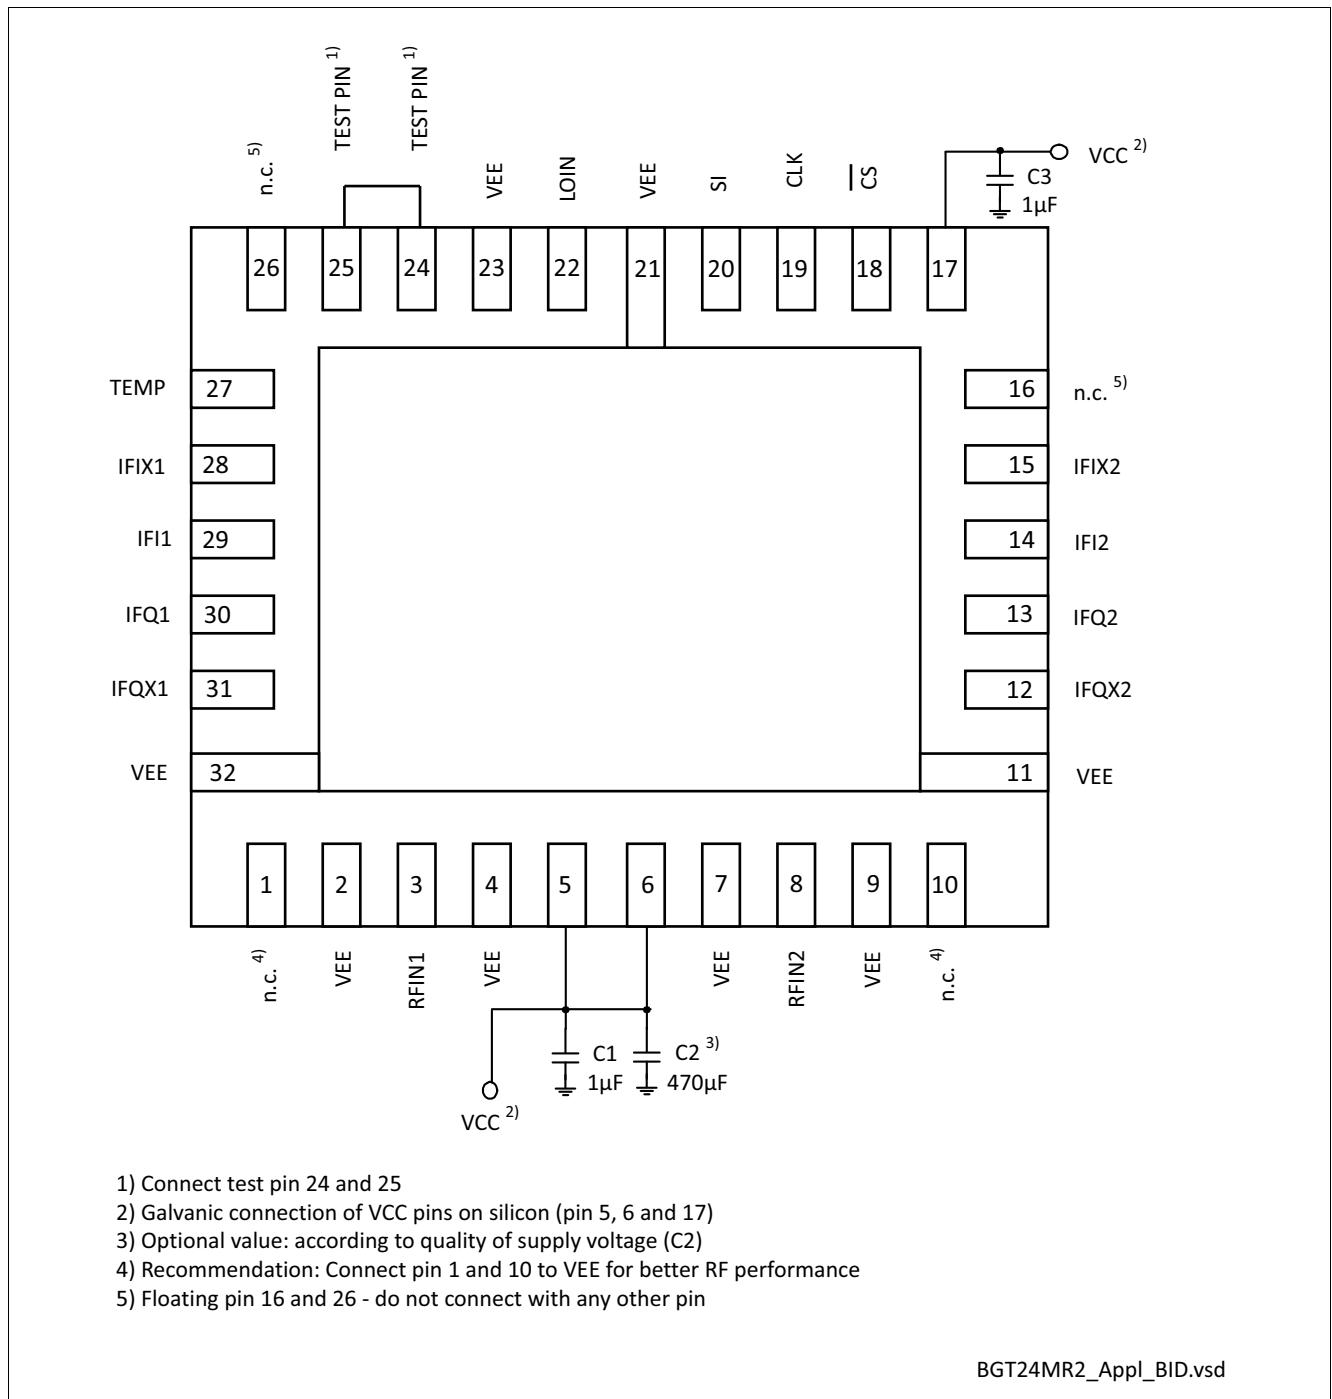

Figure 2 Application Circuit with Chip Outline (Top View)
1) Performance based on Application Circuit Figure 2 on Page 13, Cross Section of Application Board, Compensation Structures and Application Board Layout Figure 4 on Page 18ff and Footprint Figure 8 on Page 21